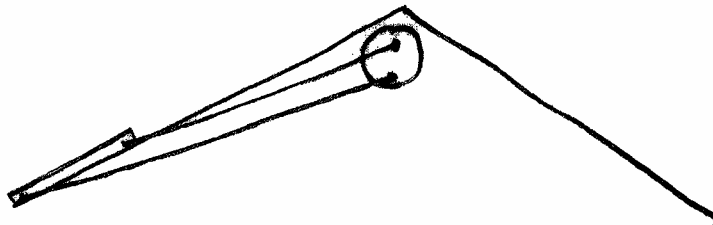

Figure 10.30 – Solar water collector connected to existing geyser
- ❖ Consider retrofitting Solar Water Collector to existing geyser. *Fig10.30*